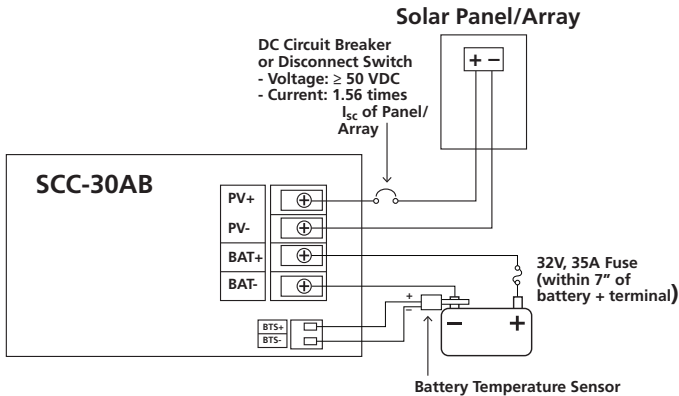

Fig. 6.2. Installation Diagram
3. The connections to the SCC-30AB terminals are shown in the drawing as in Fig. 6.2. A barrier type of Terminal Strip has been provided for connecting the PV array and the battery. M-4 screws with clamping washers are used to make the connection. A flat or a #2 Philips head screw driver may be used to tighten these screws. Tighten each terminal clamping screw to 20 inch-pounds of torque. The distance between the barriers is 9 mm and a standard Spade Type of terminal lug meant for #8 Stud and AWG #10 – AWG #12 wire may be used at the end of the wires to be connected to these terminals. **4 such terminal lugs are provided with the unit for ease of installation.**
BTS consists of a temperature sensing probe that is installed on the (-) Negative battery post (Fig. 6.2). The temperature of the battery post reflects the approximate temperature of the electrolyte. A pair of 10 metres wires (marked + & -) connect the temperature sensing probe to the 2 terminals marked (+) BTS and (-) BTS at the back of the unit.